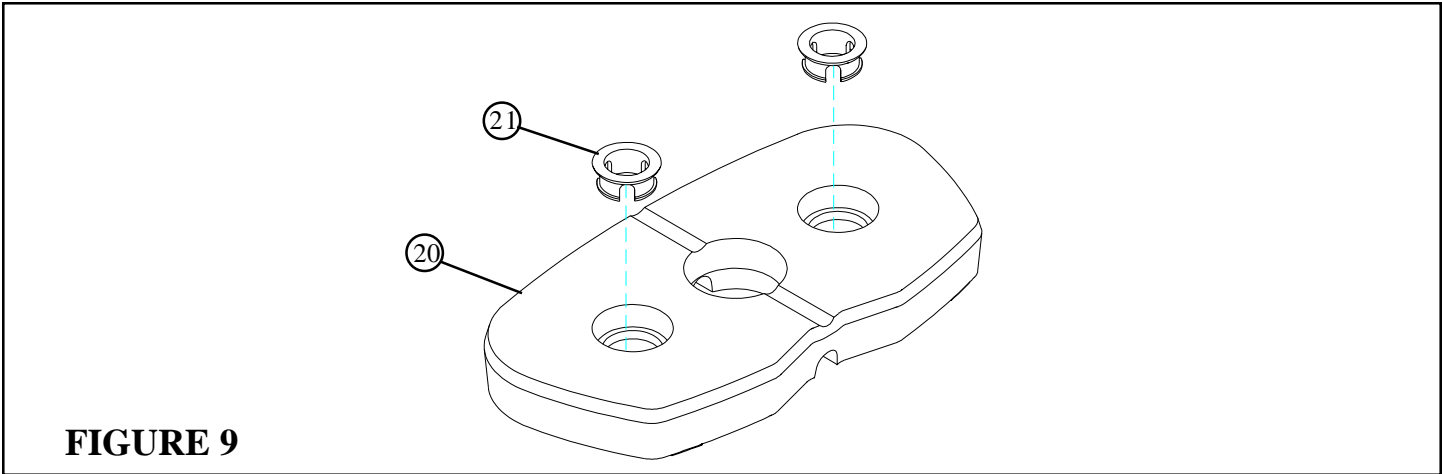

**FIGURE 8**
- SECURELY** assemble the PEC STATION PAD to the FRAME using two previously removed 3/8 X 3" BOLTS and two 3/8" WASHERS (18). See FIGURE 8.